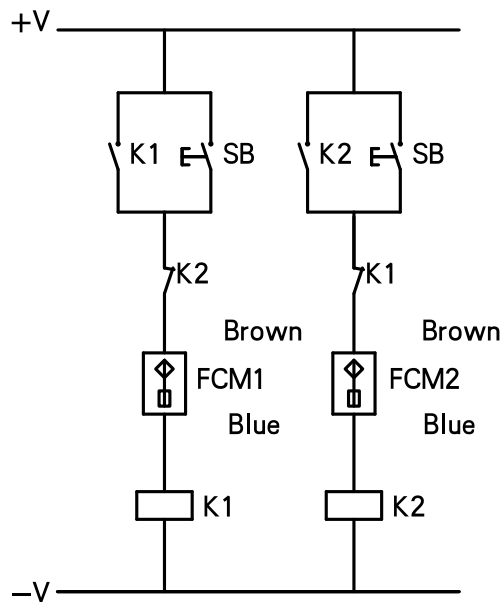

Figure 002
2. Circuit diagram of FCM magnetic induction limit switch (Figure 002)